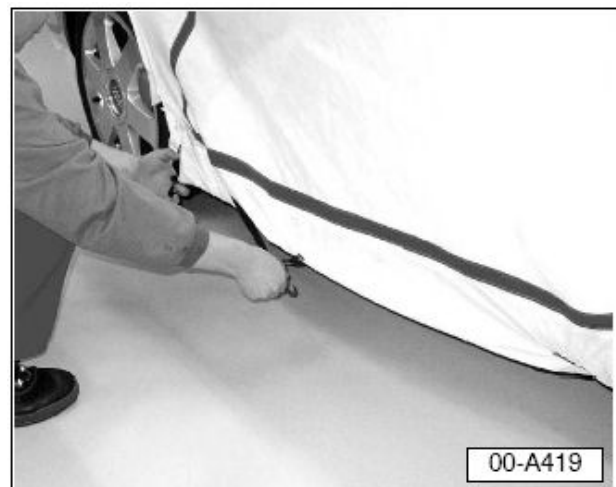

Figure 9. Remove rubber straps and hooks from sill.
9. Remove rubber (bungee) straps and their plastic hooks from sills (rocker panels) (Figure 9).